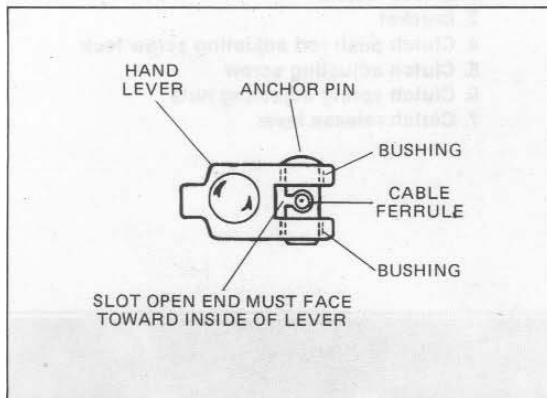

Figure 4-1. Clutch Hand Lever Cable
To disassemble cable from hand lever at anchor pin, turn sleeve into bracket (3) and remove cable from side slot as shown in figure 4-1. When reassembling cable ferrule in hand lever anchor pin with side slot, be sure slot is toward inside as shown.